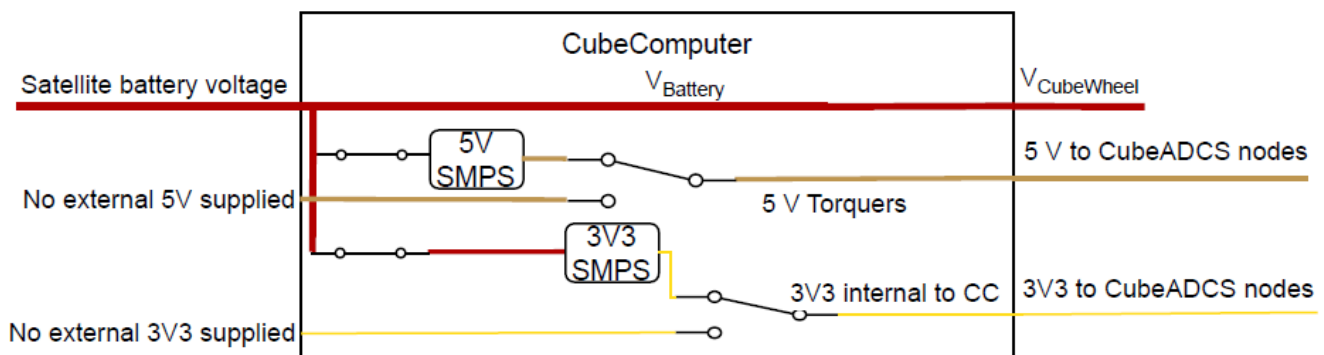

Figure 6: CubeADCS Internal Voltage Regulation from Battery Input
- The first option is to only supply satellite- or EPS battery voltage to CubeADCS. In this case, CubeADCS makes use of switched mode power supplies (SMPS) to regulate its internal 5V and 3.3V power domains (while passing through the battery voltage to the CubeWheel actuators if they are present in the system). This is shown in Figure 6.